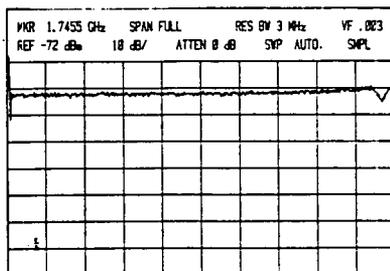

Figure 4-32.
- Observe sweep in FULL BAND. Using TUNING control, tune marker to point of highest noise level. (A typical trace is shown in Figure 4-32.)